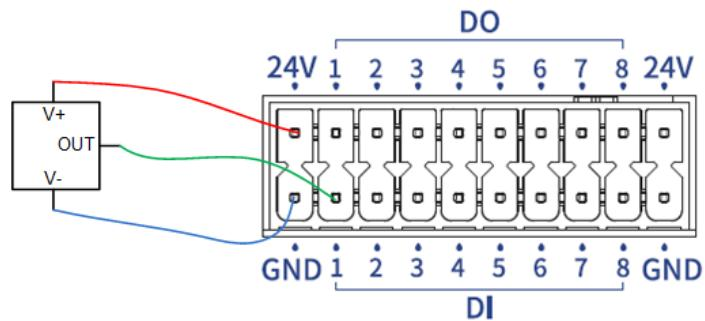

Figure 6.11 DI wiring (3-wire sensor)
- When you use the 3-wire sensor as the DI input, connect the cables as shown in Figure 6.11. The sensor signal type (PNP/NPN) needs to match the signal type of the controller.